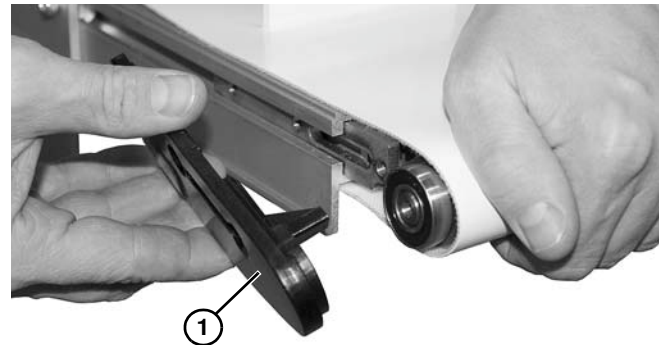

Figure 101
3. Remove the head plate (Figure 101, item 1) from the conveyor frame, holding spindle in place.